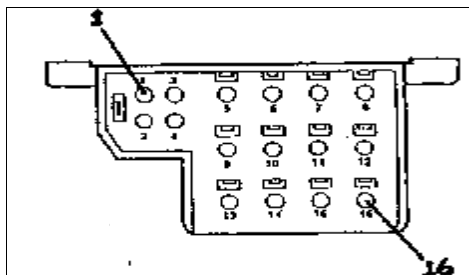

Fig.3.2
2. Pin definition for 16-pin rectangle diagnostic socket (Fig.3.2).